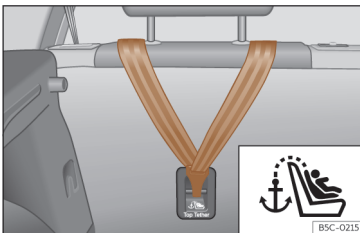

Fig. 40 Rear part of the rear seats: Top Tether belt anchor.
Child seats with a Top Tether system are fitted with an additional belt for fastening to an anchor point in the vehicle. This anchor point is located on the rear of the rear seat backrest and of the front passenger seat backrest¹⁾ (identified with the symbol ) and provides better retention >>> **Fig. 40**, >>> **Fig. 41**.
- Slide the belt and secure it properly with the anchor on the rear seat backrest >>> **Fig. 40**, >>> **Fig. 41.**